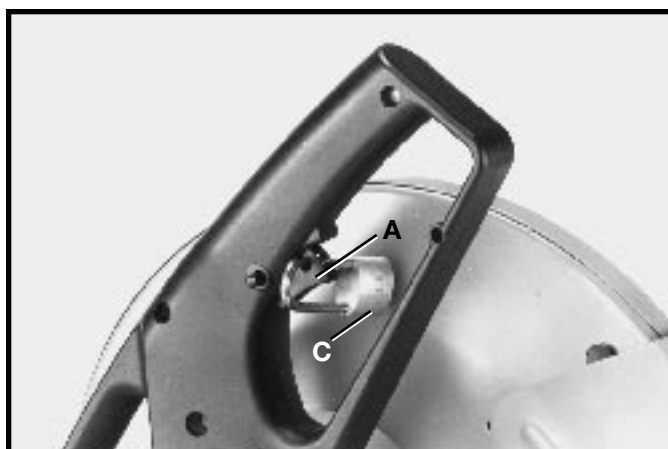

Fig. 9
IMPORTANT: We suggest that when the machine is not in use, the switch be locked in the “OFF” position using a padlock (C) through the holes in the switch trigger (A), as shown in Fig. 9.